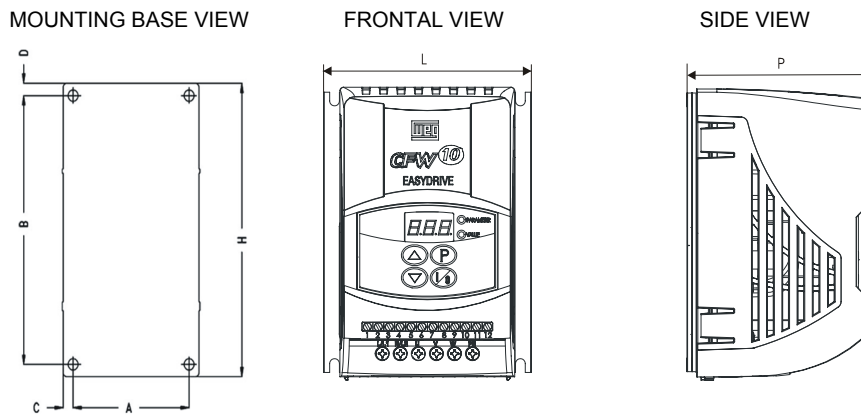

Figure 1 – Dimensional and mounting holes
1. Mark out the positions of the mounting holes on the backing plate where the frequency inverter will be located (see in figure 1 drawing and hole size).